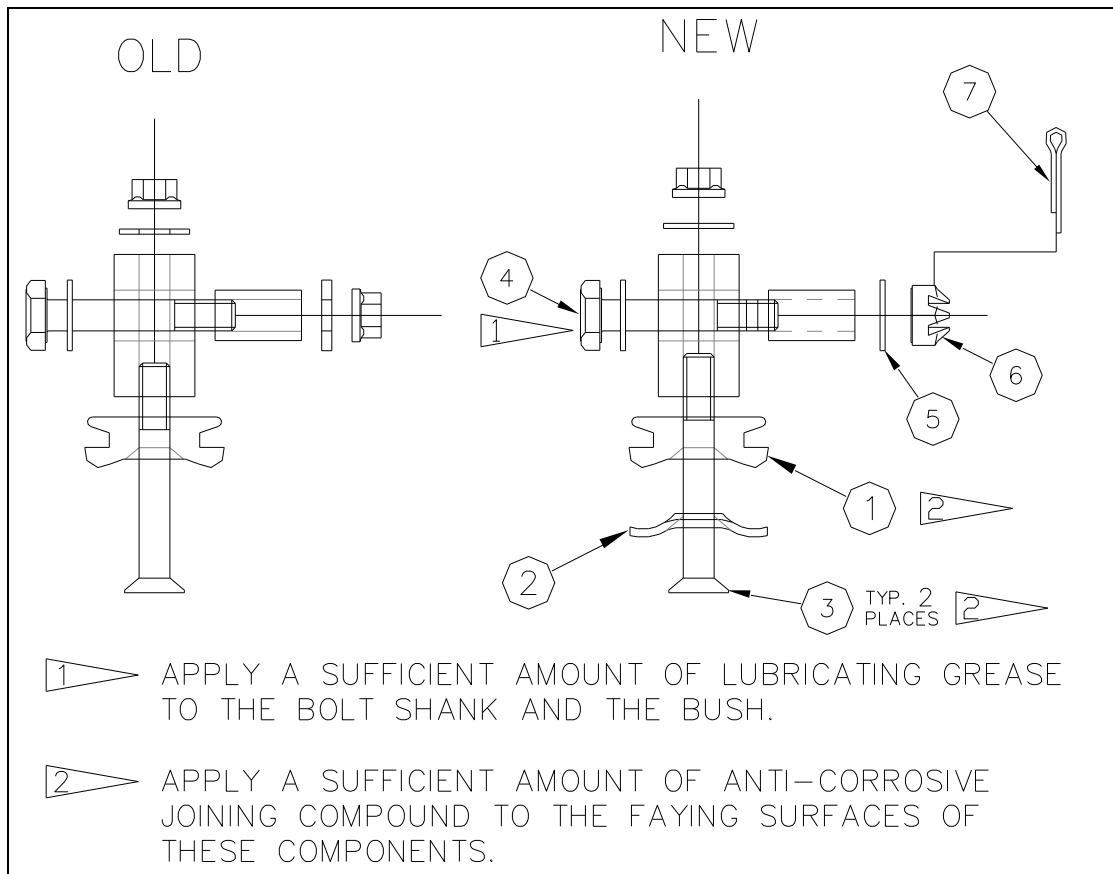

Figure 4: Old (left) and New (right) Forward cargo door slide.
5. Irrespective of Item 1, Items 2 to 7 MUST be fitted as shown in Figure 4 and listed in below.